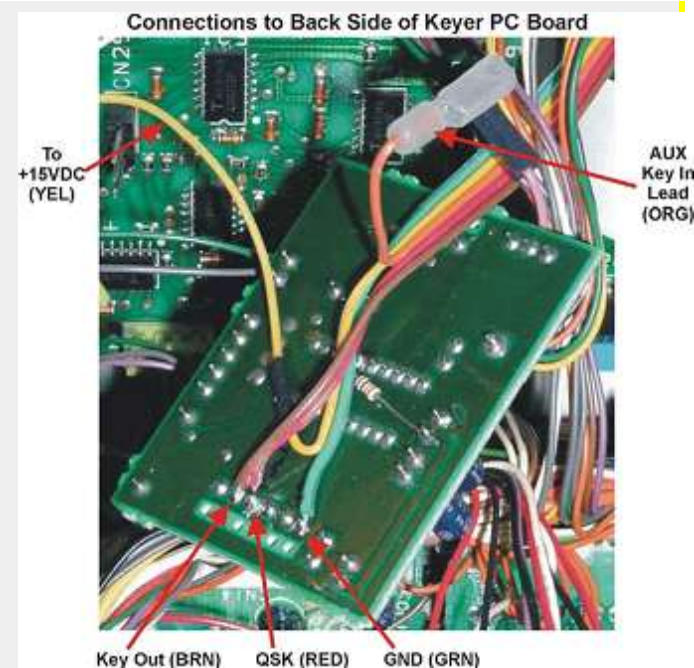

Figure 5
21. Refer to Figure 5. At the bottom of the keyer PC board, there are six (6) pads, each immediately above a matching hole (for the